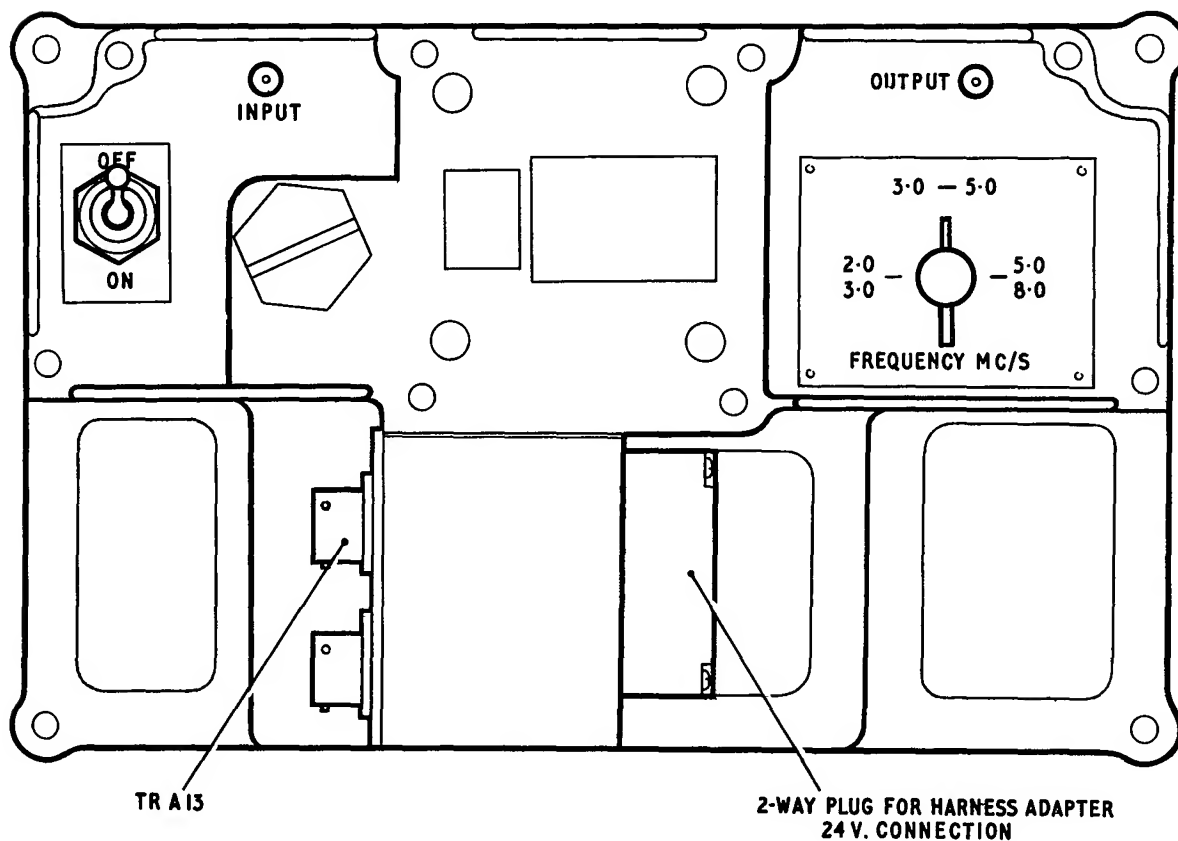

FIG. 19 Mk. 2 AMPLIFIER
- (1) Check that the amplifier is switched OFF. See fig. 19.
- (2) Carry out the tuning instructions for the LP station and tuner RF as instructed on pages 29 to 33.
- (3) Turn the FREQUENCY switch on the amplifier to the range required.
- (4) Switch the amplifier ON.
- (5) To operate the HP station on LP, switch off the amplifier, but release the pressel or the key before doing so.